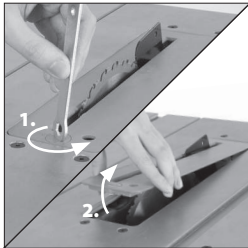

Fig. 14
- Remove the Table Access Plate by turning the fixing screw ¼ of a turn. Lift the Access Plate from the machine (**Fig. 14**). Carefully store this component for later use.